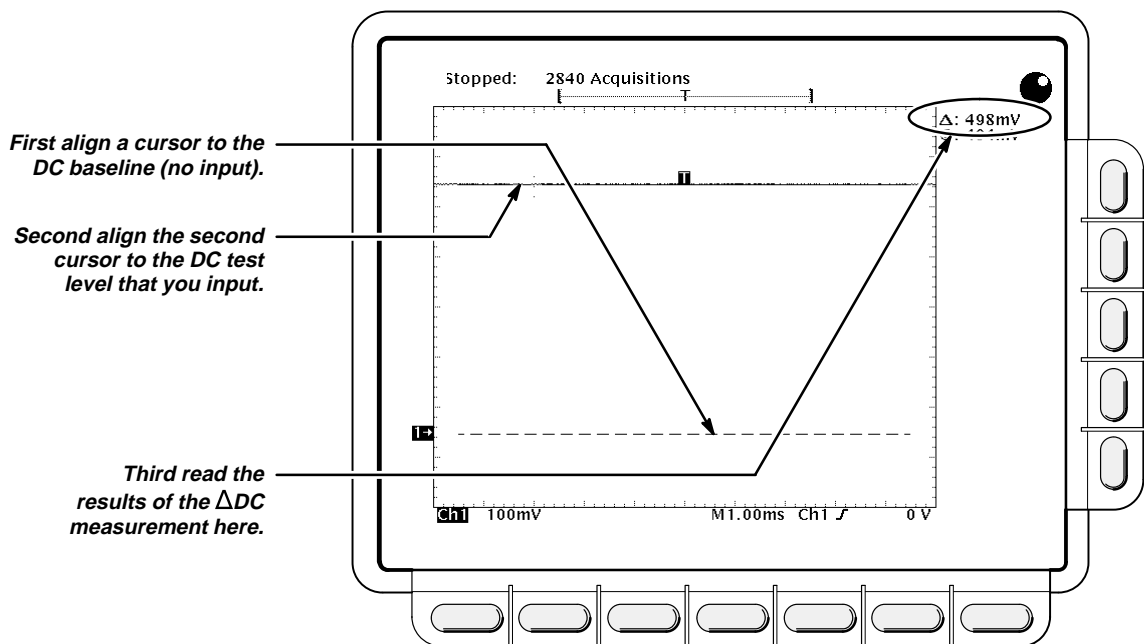

Figure 1-6: Measurement of the DC Accuracy for Delta Measurements
- Press **CLEAR MENU**. Read the measurement results from the delta (Δ) readout, not the absolute (@:) readout. See Figure 1-6.